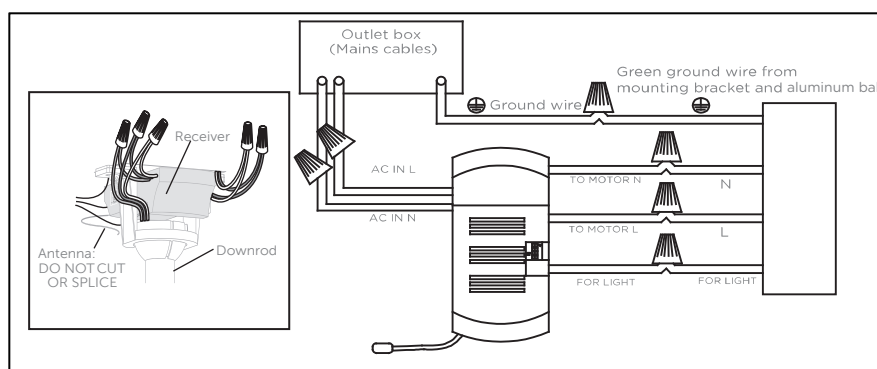

Fig. 10
- On this setting, the fan will turn counter-clockwise to create a cooling effect. Use this function during warmer weather to circulate hot air away from your living space (see Fig. 10).